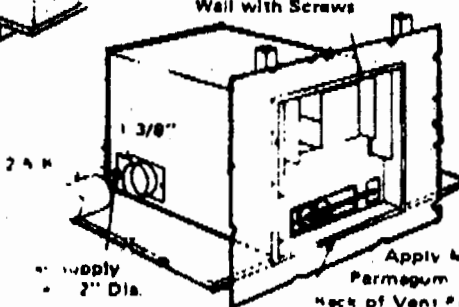

Fig. 3
5. Attach side duct connectors to furnace casing with screws that are provided. Slide ducts over connectors and seal with duct tape. See Figure 3.